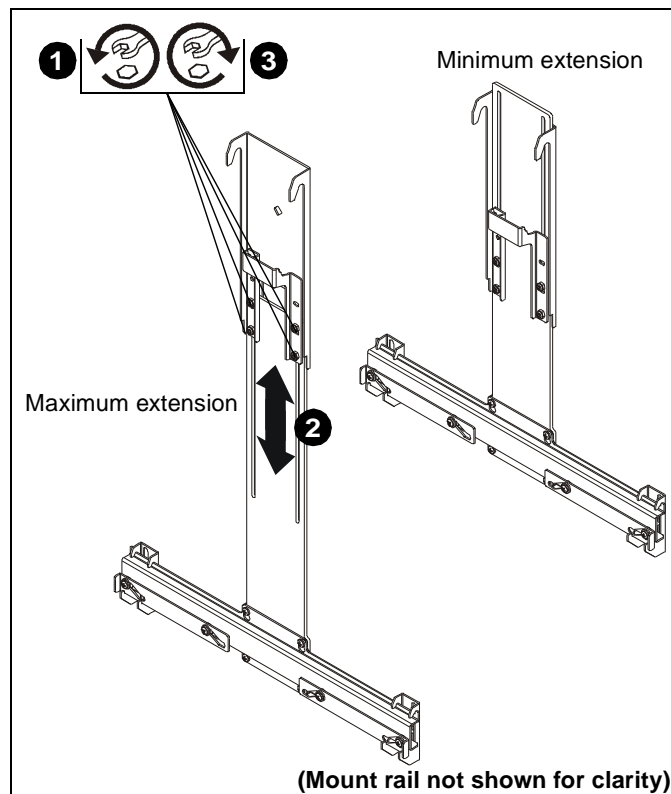

Figure 5
1. Loosen two nuts on each side of retaining bracket. (See Figure 5)